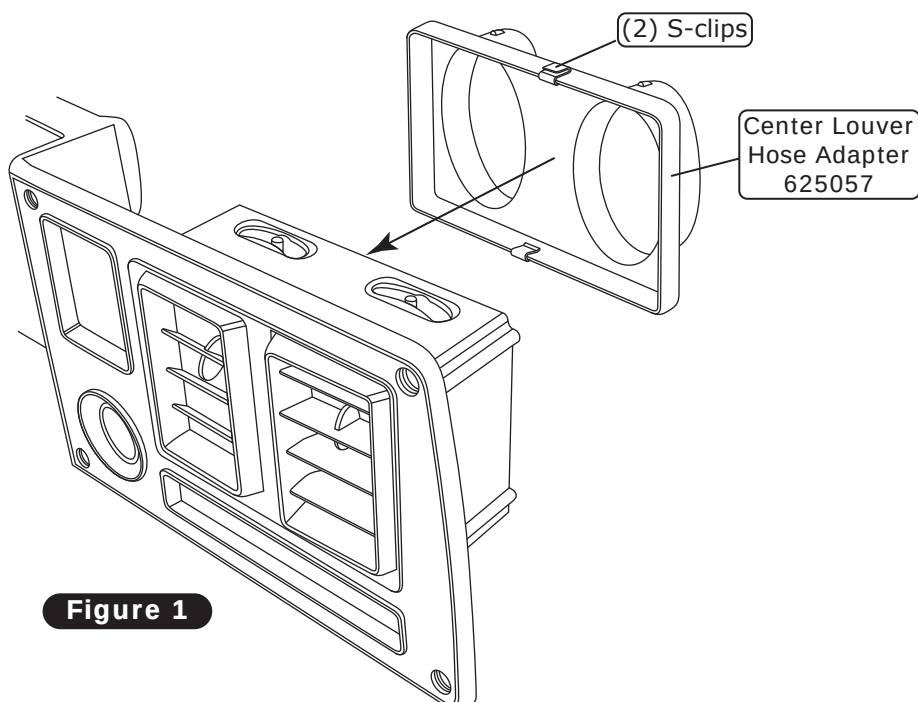

Figure 1
2. In line with the drain, lightly make a mark on firewall. Then, measure 1" down and drill a 5/8" hole through the firewall (See Figure 1, below).
1. Install (2) S-clips onto the center louver hose adapter (See Figure 1, below).
2. Install the center louver hose adapter onto the center louver as shown in Figure 1, below.
2. The supplied (2) 2.5" to 2.5" to 2" hose adapter assemblies will be configured inline between the 4-vent plenum and center louver air flow path. This will distribute a path to the vehicles OEM under dash vent louvers. **NOTE: The recommended air duct hose lengths shown in Figure 1, below, are to be divided into two, but not equal, part lengths to adequately reach the connection for both center vent louvers and under dash vent louvers. This applies the use of both the 2 1/2" and 2" hose lengths for this air division configuration. Carefully use what is only necessary and stay under or at the given measurements.**